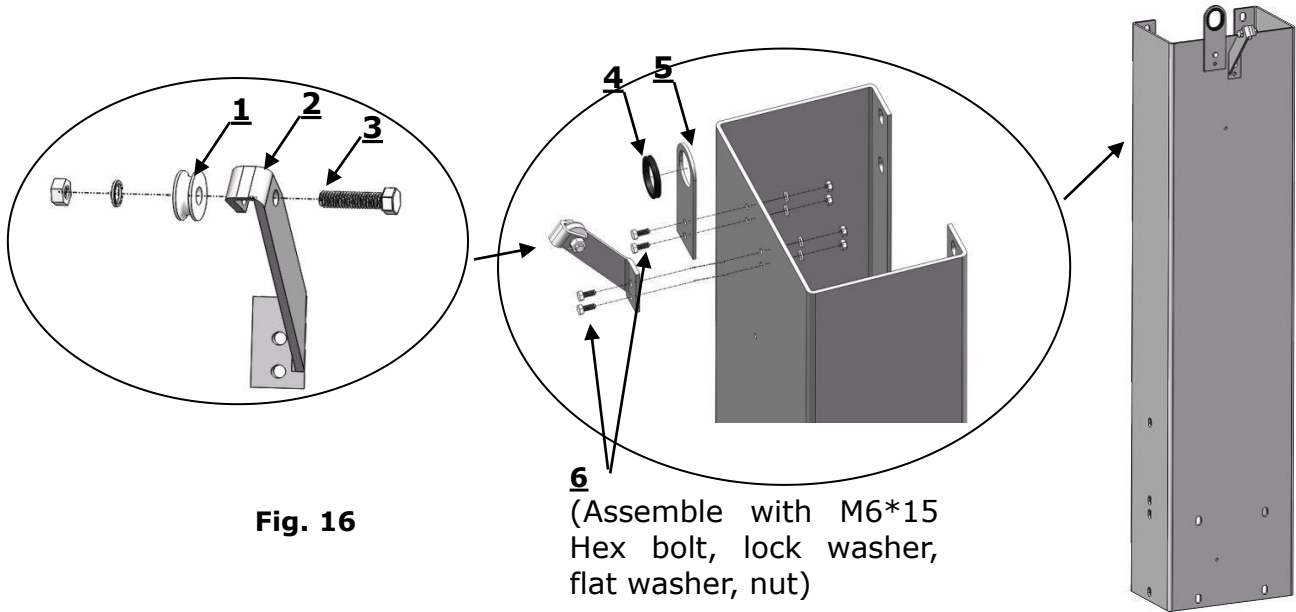

Fig. 16
D. Install parts of extension columns (See Fig. 16).